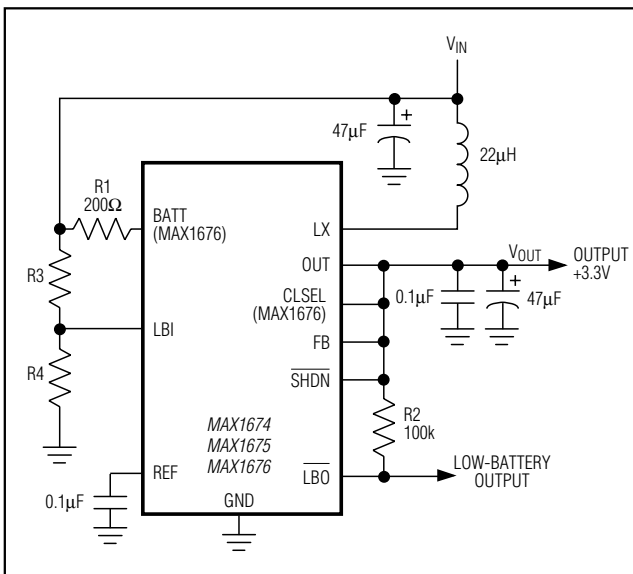

Figure 5. Preset Output Voltage of +3.3V
**Note 2:** Steady-state output current indicates that the device maintains output voltage regulation under load. See Figures 5 and 6.
$V_{OUT}$  can be set to 3.3V or 5.0V by connecting the FB pin to GND (5V) or OUT (3.3V) (Figures 5 and 6).
The MAX1674/MAX1675/MAX1676 contain an on-chip comparator for low-battery detection. If the voltage at  $\overline{LBI}$  falls below the internal reference voltage (1.30V),  $\overline{LBO}$  (an open-drain output) sinks current to GND. The low-battery monitor threshold is set by two resistors, R3 and R4 (Figures 5, 6, and 7). Since the LBI current is less than 50nA, large resistor values ( $R4 \leq 260k\Omega$ ) can be used to minimize loading of the input supply. Calculate R3 using the following equation: